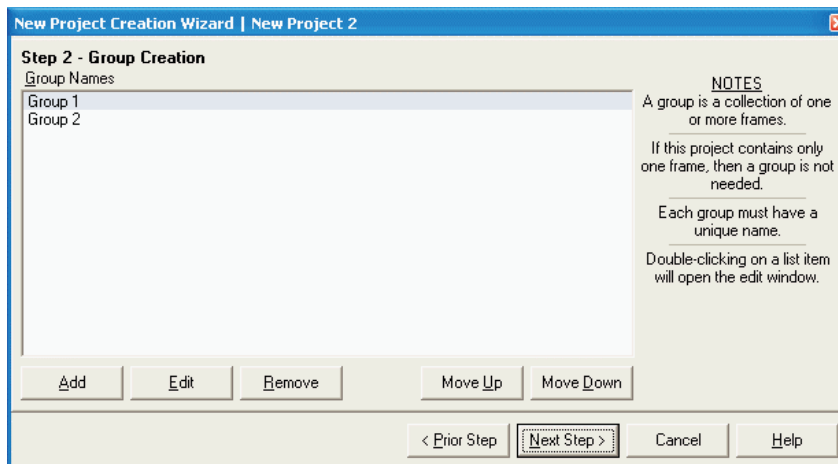

Figure 15 - New Project Wizard, Group Creation
**Step 2 - Group Creation** (See Figure 15)